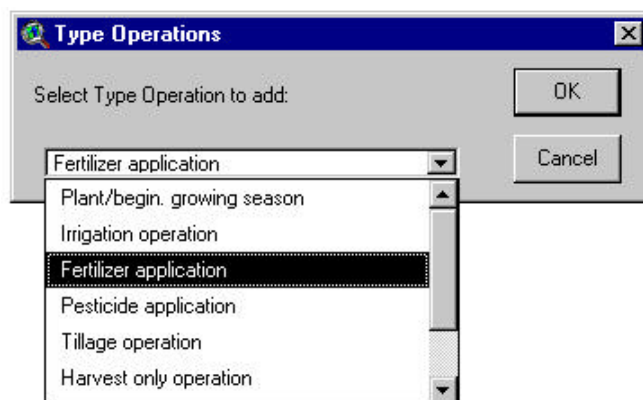

Figure 12.48
- b. A prompt box will be displayed (Figure 12.48).